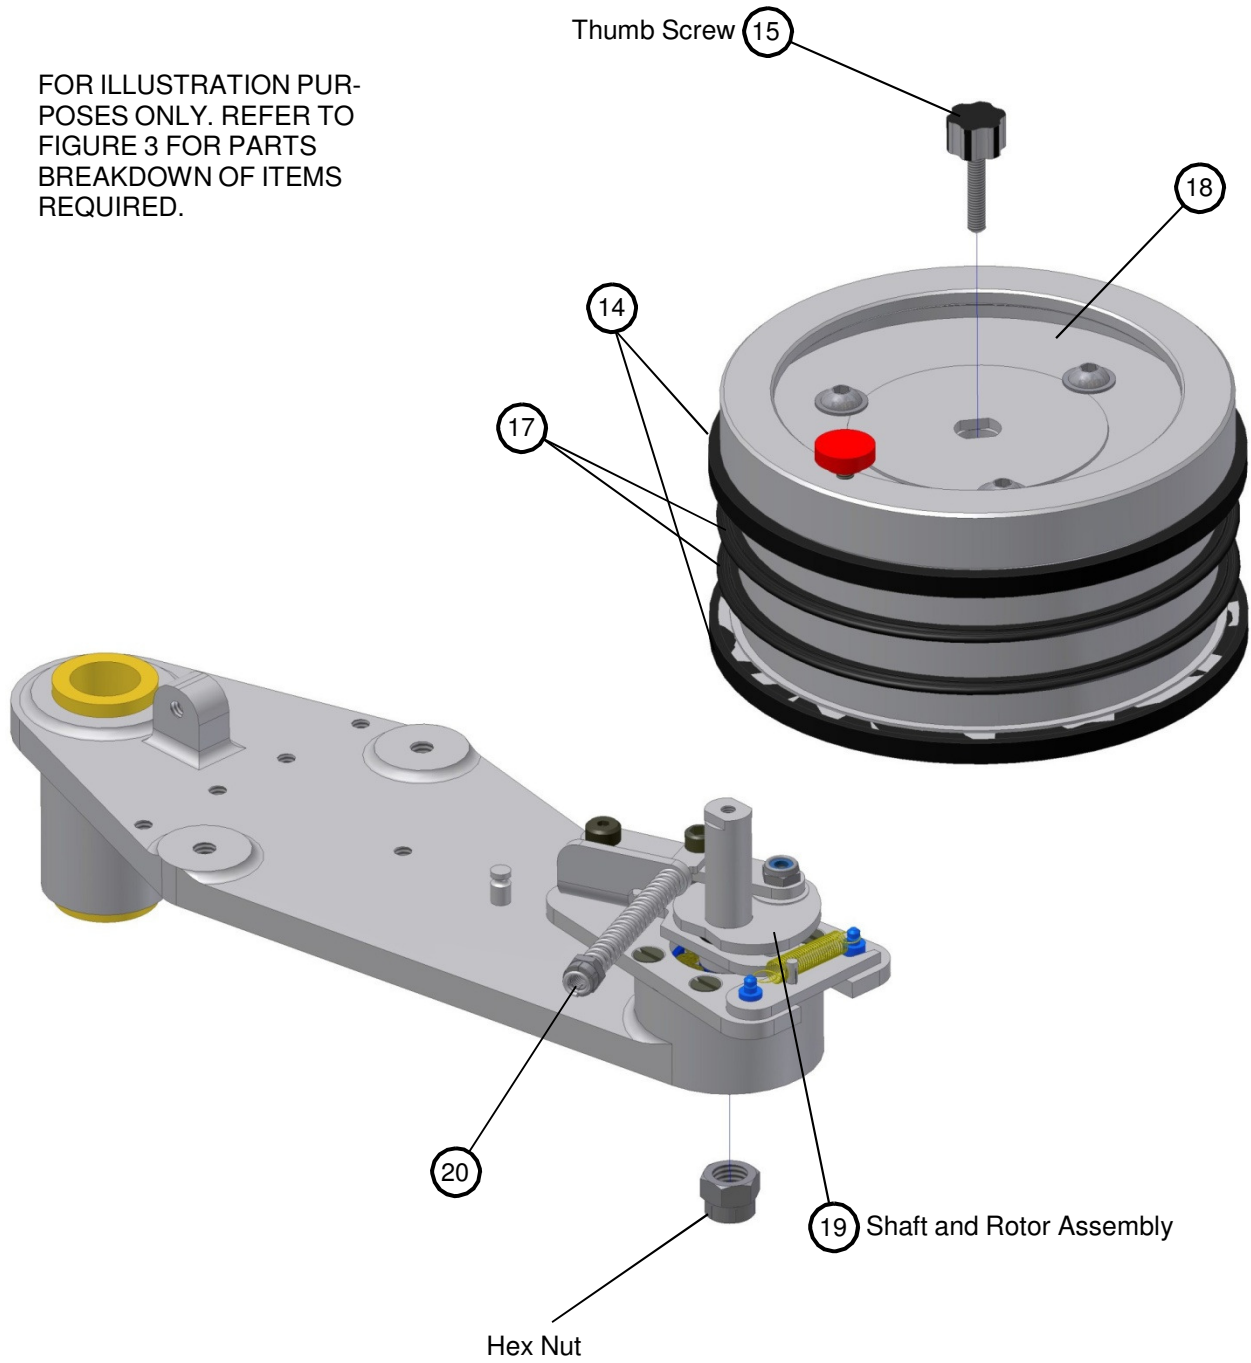

FIGURE 2
4. Check for loose hex nut (see Figure 2).
## **INSTRUCTIONS FOR MOUNTING NEW DIE WHEEL ASSEMBLY AND DIE WHEEL SHAFT AND ROTOR ASSEMBLY (Figure 2)**